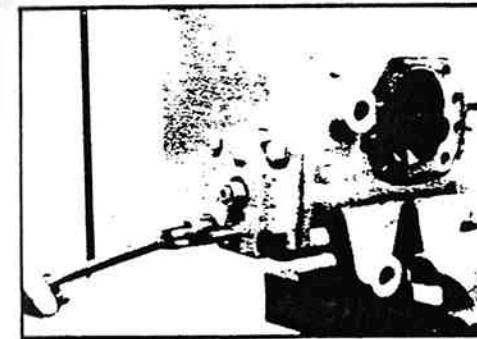

Figure 11-23. Removing Bolts.
19. Remove the four end cover bolts (30) with a 13/16 inch socket and remove the four washers (29) (figure 11-23).